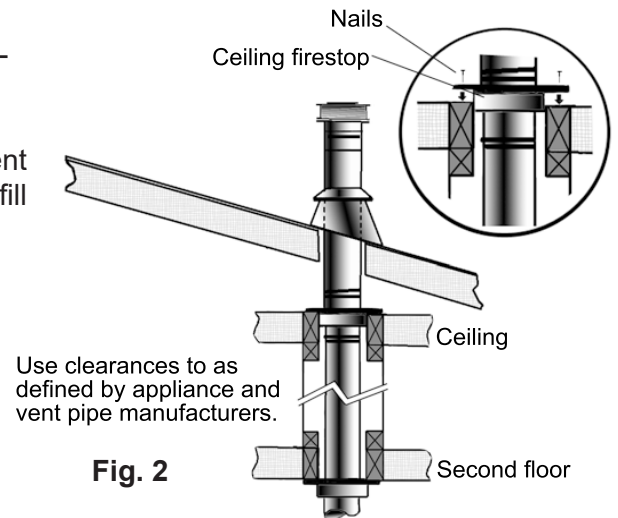

Fig. 2
- For multi story installations, a ceiling firestop is required at the second floor, and on any subsequent floors (**Fig. 2**).